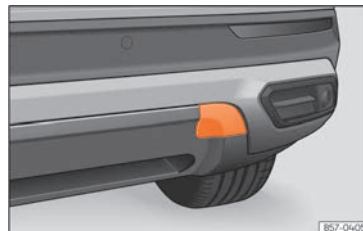

Fig. 194 Rear bumper on right: remove the lid.
The housing of the screw towing eye is on the right side of the rear bumper behind a lid >>> Fig. 194.
- Press the upper side of the lid >>> Fig. 194 to unclip it.